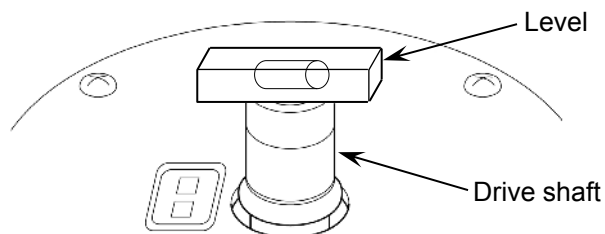

Fig. 5-3 Level placement
(2) Turn on the power switch on the ultracentrifuge, open the chamber door, and then turn off the power switch. If this ultracentrifuge is still unplugged, refer to section 2-5 "Emergency Recovery from Power Failure", remove the front cover, and open the chamber door.
(3) Place the level furnished with this ultracentrifuge on the drive shaft in the rotor chamber and turn the four level adjusters to adjust the levelness of this ultracentrifuge (Fig. 5-3).
- (4) After adjusting the levelness, make sure that the four level adjusters are placed on the floor properly. If the ultracentrifuge does not rattle when it is lightly pushed around, it is installed properly.